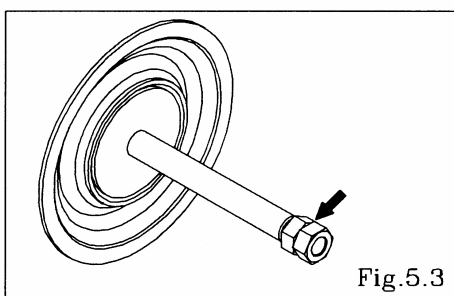

Fig.5.3
- Remove the nut on the opposite side using the double nut. [Fig.5.3]